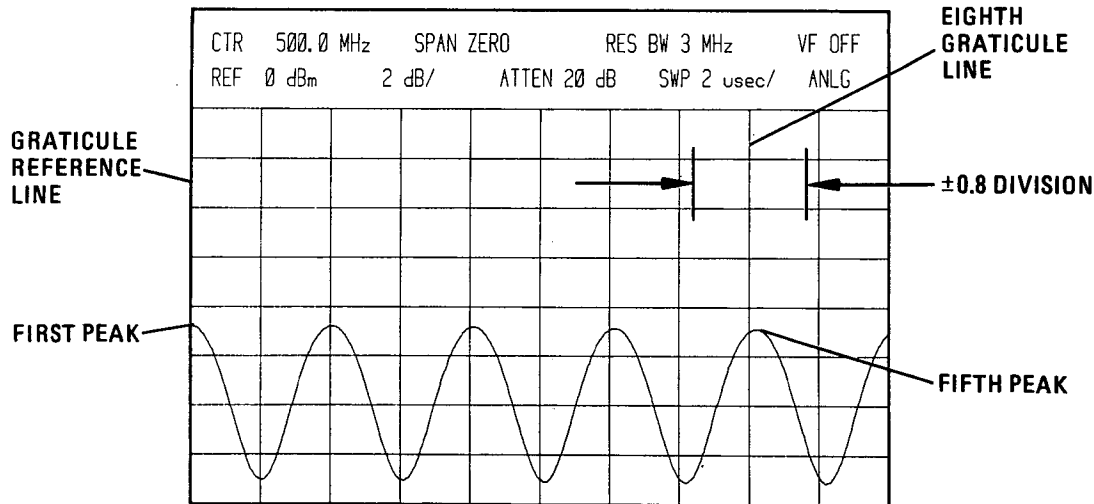

Figure 4-22. Sweep Time Accuracy, $2 \mu\text{SEC}/\text{DIV}$
9. Adjust TRIGGER LEVEL of analyzer to place a peak of sine wave on graticule reference line (left-most graticule line). Fifth peak from reference should be within ± 0.8 division of eighth graticule line. (See Figure 4-22.)